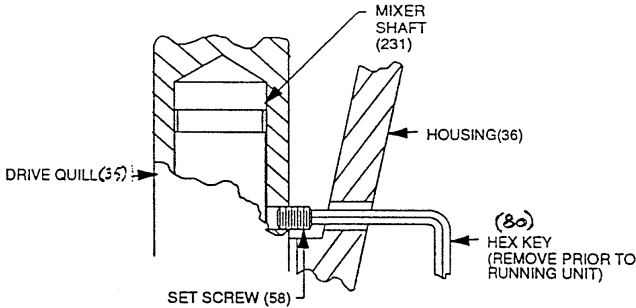

Fig. 2
1. Check the access hole in the drive unit housing to see if the drive quill set screw (58) is accessible (see Fig. 2).